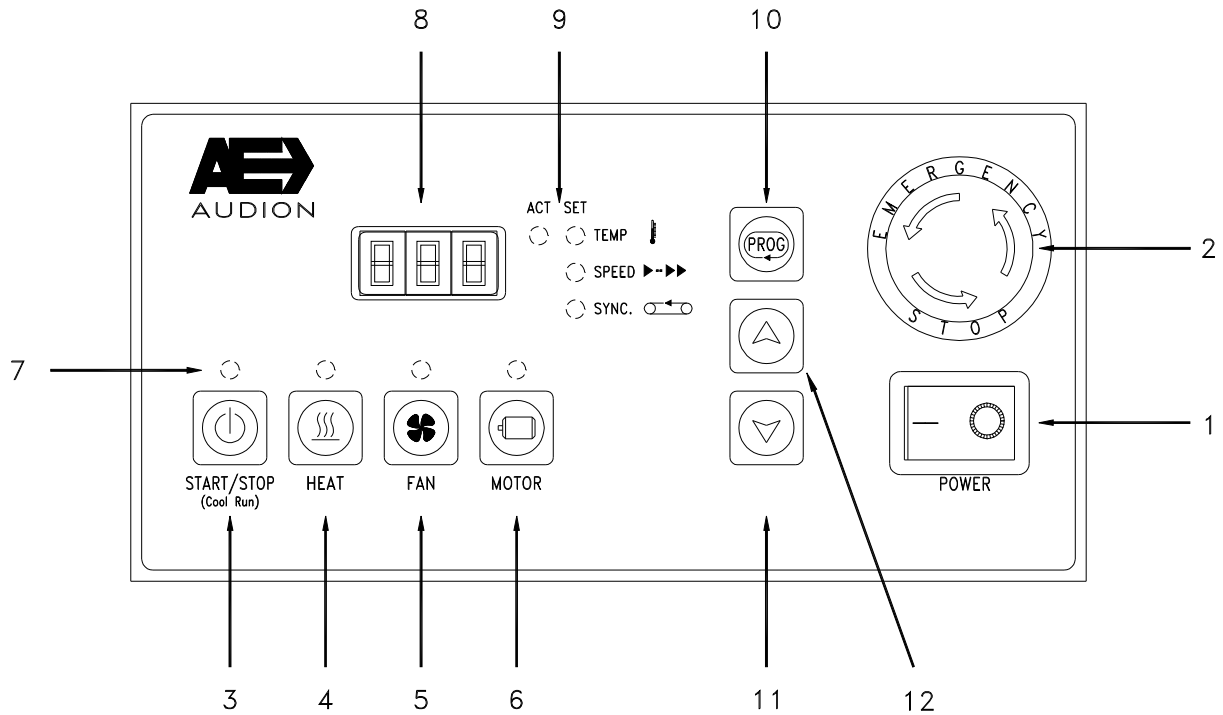

Fig. 3
Before connecting the ALL-IN-SEALER, be sure that the power is off, the main switch (fig. 3 pos 1) must be at position O (OFF).